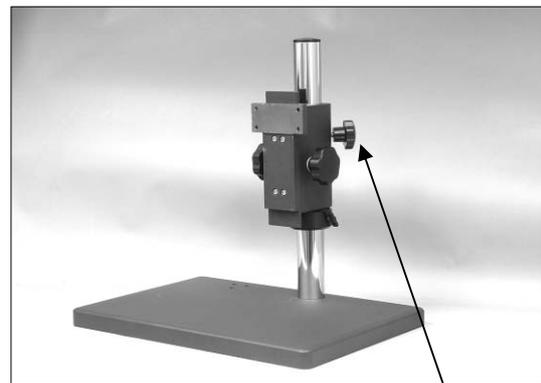

Fig.7b
1. Fully loosen the focusing assembly clamping knob D. While holding the focusing assembly with both hands, insert the pillar into the mounting hole (Fig. 7b)
2. After inserting the focusing assembly until it reaches the stop position, secure it with the microscope body clamping knob D. (Fig. 7b)